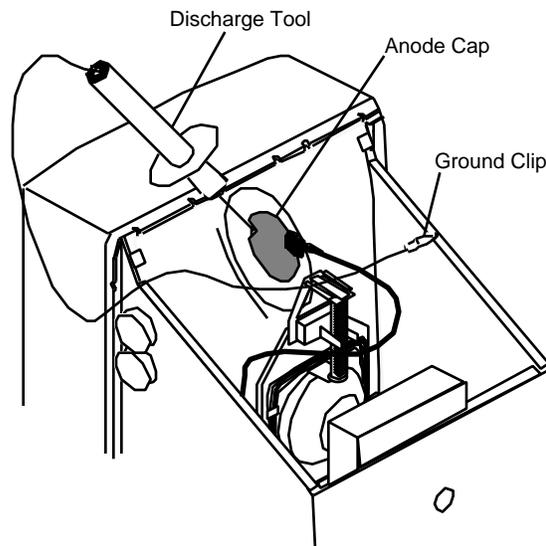

FIGURE 6
4. Attach the clip of the CRT discharge tool to any metal part of the chassis (Figure 6).
6. Hold the CRT discharge tool to the tube surface, and insert its probe under the anode cap (Figure 6) until it touches the anode ring.